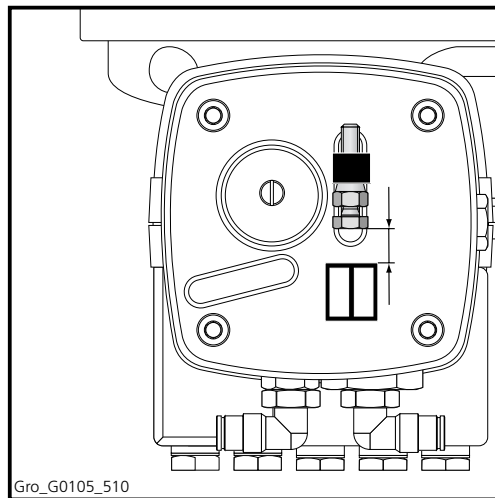

Figure 5.11 Setting screw
3. Make sure that the setting screw attached to the piston in the brake-counter does not rest on the end stop by activating the vehicle's brakes (Figure 5.11).